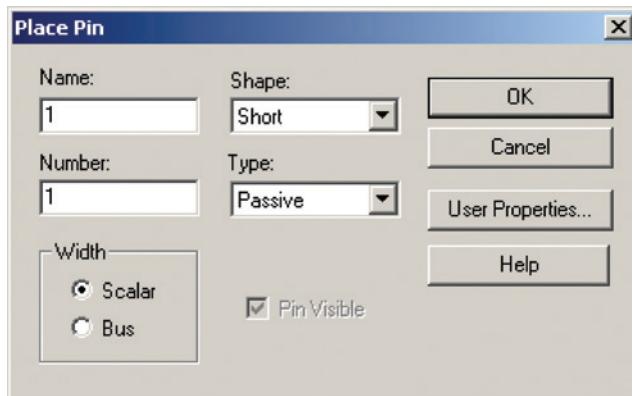

Figure 7-9 The *Place Pin* dialog box.
The next step is to add the pins that will make the transformer's five leads. **To add pins to the part**, toggle the pin tool, . The **Place Pin** dialog box shown in Fig. 7-9 will be displayed.
**To set a power pin's properties**, select pin 8 and then right click and select **Properties** from the pop-up (or just double click the pin) to bring up the **Pin Properties** dialog box (see Fig. 7-9 as an example). Make sure that the **Pin Visible** box is checked, an option that is available only for power pins (since all other types of pins are always visible). If you use the